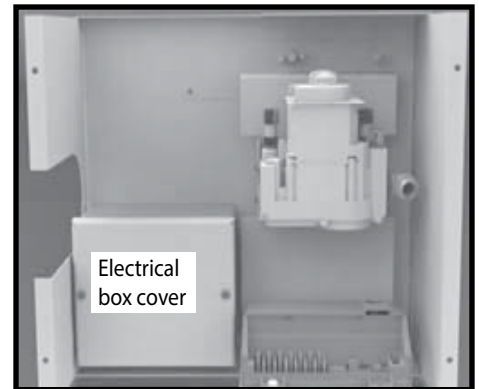

Figure 20: Electrical box cover.
4. Remove the cover from the electrical box (Figure 20).